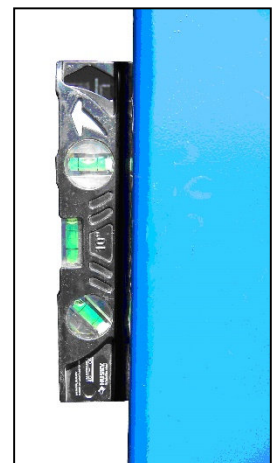

Fig. 5
6. Using a level, check column plumb for every side (Fig. 5). If shimming is required, use supplied Shim stock or ¾" washers, placing shims as close as possible to the hole locations. This will prevent bending column bases.